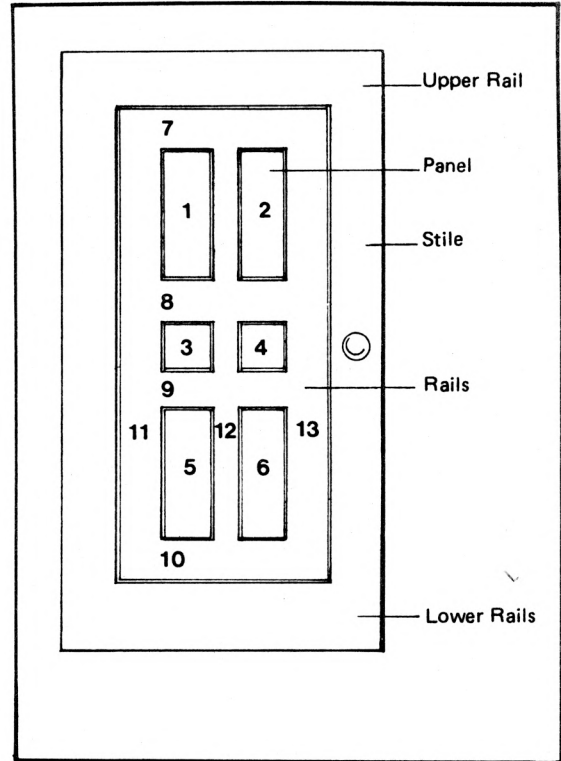

FIG. 3-3 SEQUENCE IN PAINTING PANEL DOORS
- j. When painting panel doors, paint panels first then follow with rails and stiles. See Figure 3-3.